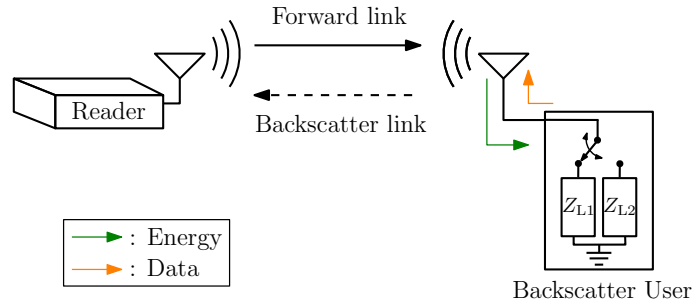

Figure 1: Monostatic backscatter communication system model.
A basic monostatic BackCom system consists of a reader and a passive backscatter user, as illustrated in Fig. 1. The reader functions both as the transmitter of the continuous Radio Frequency (RF) signal and as the receiver of the backscattered signal. In the forward link, the reader emits an unmodulated RF carrier toward the passive backscatter user. Since the backscatter user does not have an onboard power source, it harvests energy from the incident RF signal to operate. The passive backscatter tag also leverages the incident RF signal to transmit information with load modulation. Specifically, the backscatter tag changes the impedance load connected to the antenna's output terminal, which alters the amplitude or phase of the reflected signal. This modulated signal, called the backscattered signal, is then reflected back along the backscatter link and received by the same reader.